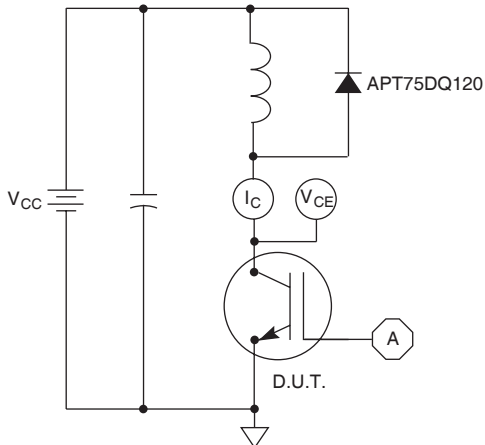

Figure 21, Inductive Switching Test Circuit
- ① Repetitive Rating: Pulse width limited by maximum junction temperature.
- ② For Combi devices, I_{ces} includes both IGBT and FRED leakages
- ③ See MIL-STD-750 Method 3471.
- ④ E_{on1} is the clamped inductive turn-on energy of the IGBT only, without the effect of a commutating diode reverse recovery current adding to the IGBT turn-on loss. Tested in inductive switching test circuit shown in figure 21, but with a Silicon Carbide diode.
- ⑤ E_{on2} is the clamped inductive turn-on energy that includes a commutating diode reverse recovery current in the IGBT turn-on switching loss. (See Figures 21, 22.)
- ⑥ E_{off} is the clamped inductive turn-off energy measured in accordance with JEDEC standard JESD24-1. (See Figures 21, 23.)
- ⑦ R_G is external gate resistance, not including $R_{G(int)}$ nor gate driver impedance. (MIC4452)
- ⑧ Current limited by lead temperature.